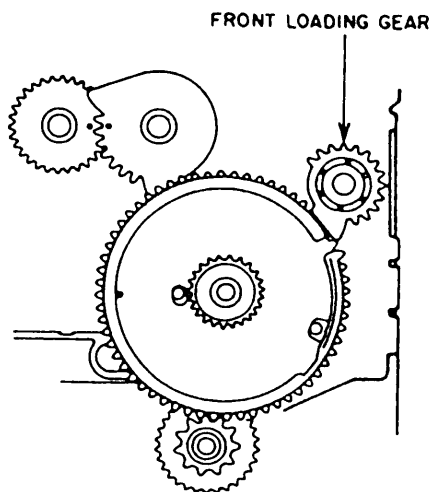
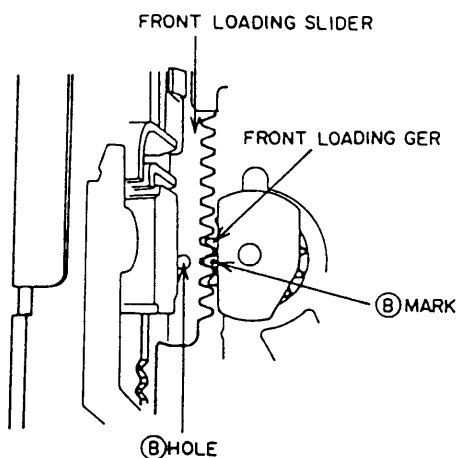

Fig. 3-10
Fig. 3-11
- 3) Attach the FRONT LOADING GEAR as shown in Fig. 3-10. At this time, align the ⑧ mark on the FRONT LOADING GEAR with the ⑧ hole of the FRONT LOADING SLIDER as shown in Fig. 3-11.